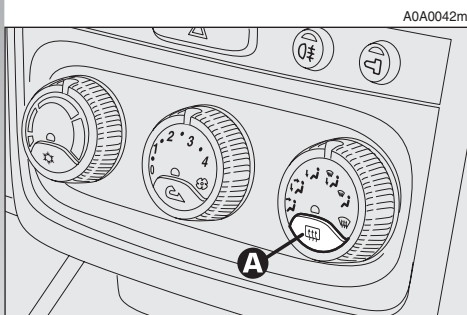

fig. 36
**Defrosting/demisting (fig. 36)**